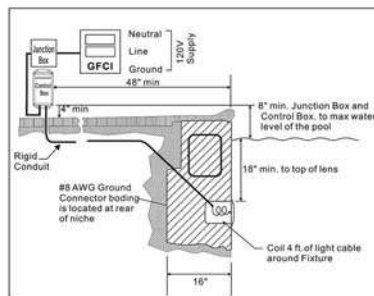

Figure 1
2. The junction box (or, for 12 volt models, the low voltage transformer) must be located at least eight(8) inches above water level, at least four (4) inches above ground level, and at least four (4) feet from the edge of the pool. See Figure 1.
3. The light fixture and all metal items within five(5) feet of the pool must be properly electrically bonded to a reliable point of grounding.
4. The wet niche must be properly installed so that the top edge of the underwater light's lens is at least 18 inches below the surface of the water in the pool. See Figure 1.
5. The wet niche must be properly electrically bonded and grounded via the No. 8 AWG ground connector located at the rear of the niche. See Figure 1.
1. Feed cord through conduit to junction box, leaving at least four (4) feet of cord at the light fixture to coil into the base of the light niche, see Figure 1. The four (4) feet of cord allows the light to be serviced after the pool is filled with water.
2. Cut the cord at the junction box, leaving at least six (6) inches of cord to make connections.
The junction box (or, for 12 volt models, the low voltage transformer) must be located at least eight(8) inches above water level, at least four (4) inches above ground level, and at least four (4) feet from the edge of the pool. See Figure 1.
4. The light fixture and all metal items within five(5) feet of the pool must be properly electrically bonded to a reliable point of grounding.
The wet niche must be properly installed so that the top edge of the underwater light's lens is at least 18 inches below the surface of the water in the pool. See Figure 1. The wet niche must be properly electrically bonded and grounded via the No. 8 AWG ground connector located at the rear of the niche. See Figure 1.
4. Feed cord through conduit to junction box, leaving at least four (4) feet of cord at the light fixture to coil into the base of the light niche, see Figure 1. The four (4) feet of cord allows the light to be serviced after the pool is filled with water.
5. Cut the cord at the junction box, leaving at least six (6) inches of cord to make connections.